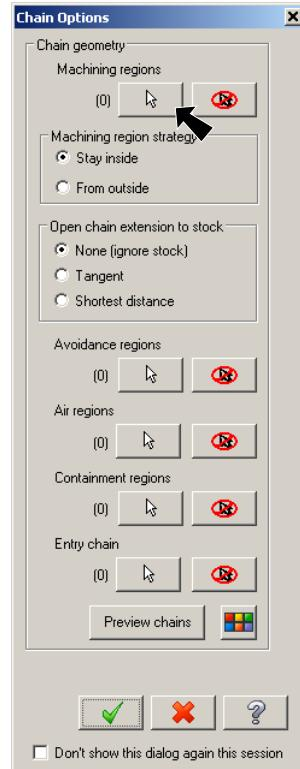

Fig. 41
Step 3. Select **Machining regions**  button in Chain Options dialog box, **Fig. 41**.